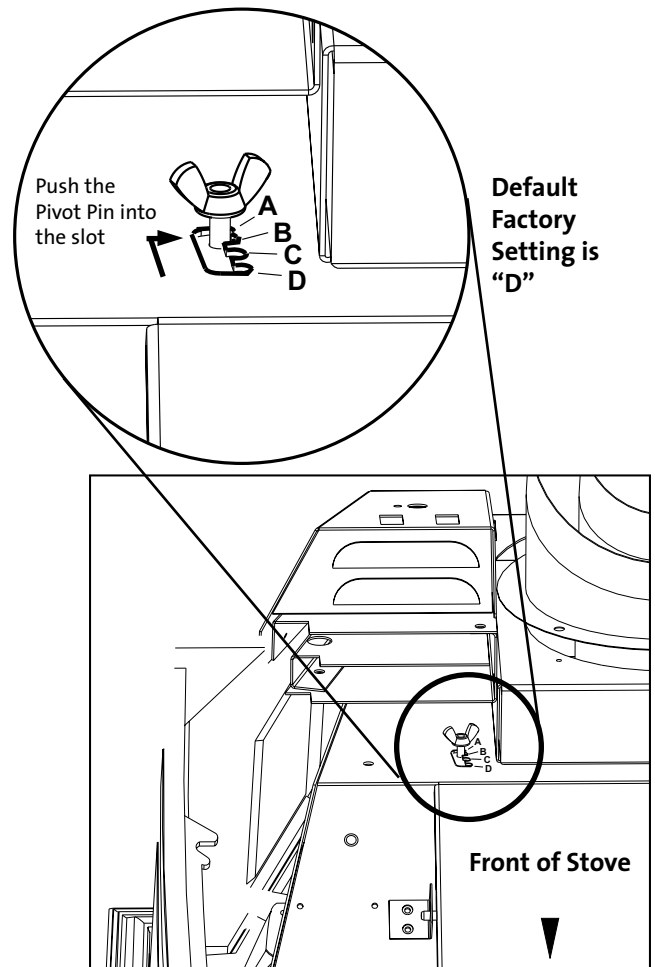

Figure 7. Adjusting the Exhaust Restrictor plate - Top Plate removed. Viewed from front of stove.
The Exhaust Restrictor is an adjustable shutter located at the top of the firebox. It is adjusted by moving a pivot pin into one of four positions. It is set in the FULLY OPEN position at the factory. See Fig. 7.
2. Locate the pivot pin at the left side of the firebox top. Loosen the wing nut on the pivot pin and push the pin to the left to disengage it from the current setting position. Move the pin toward the rear and then right to engage it in the appropriate position indicated on the firebox. See fig. 7.